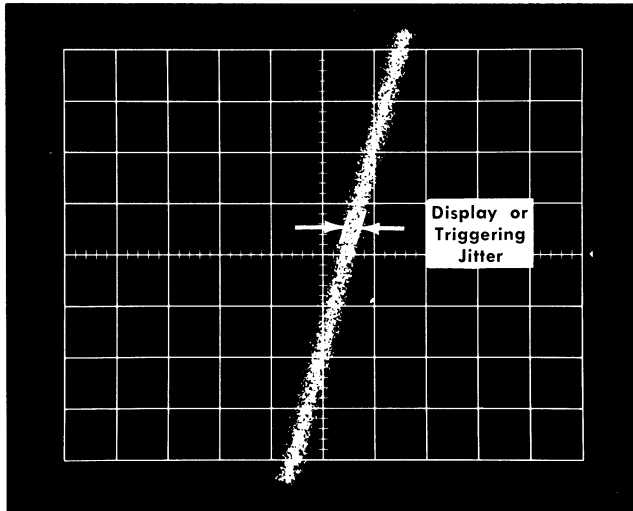

Fig. 5-38. Typical crt display for checking equivalent-time display jitter or triggering jitter.
- k. **Check** the display jitter also on the 100  $\mu$ S, 10  $\mu$ S and 1  $\mu$ S positions of the TIME POSITION RANGE switch, as listed in Table 5-7. Fig. 5-38 shows a typical waveform for checking equivalent-time display jitter.
- l. **Check** the horizontal thickness of the trace for time jitter of the display. This should not exceed 40 psec (see Fig. 5-38).
- k. **Check** the trace for time jitter. This should not exceed 70 psec (see Fig. 5-38).